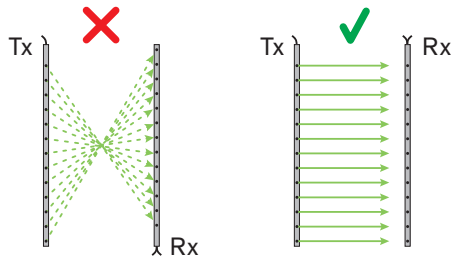

Figure 5: Alignment of emitter / receiver
- ▶ The emitter and receiver should not be rotated 180° when mounting. That means, the connection cable of the door edge **must** come out of the top (Figure 5).